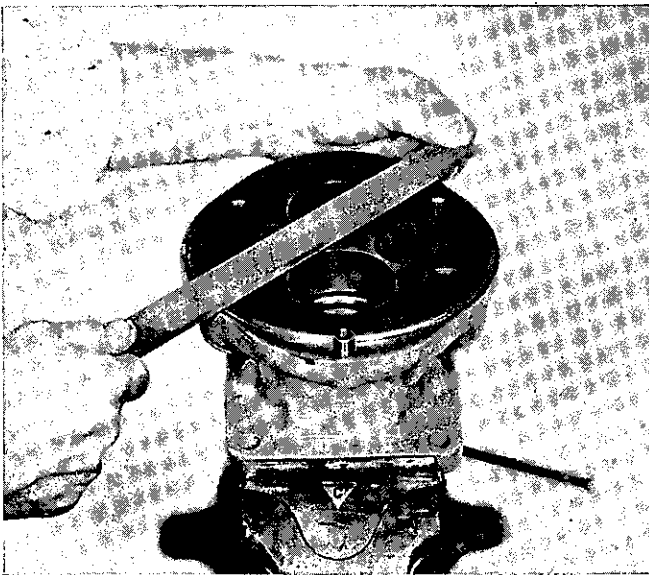

Figure 11
1. Remove all nicks or burrs from the machined surfaces with a small piece of flat mill file. (See Figure 11).